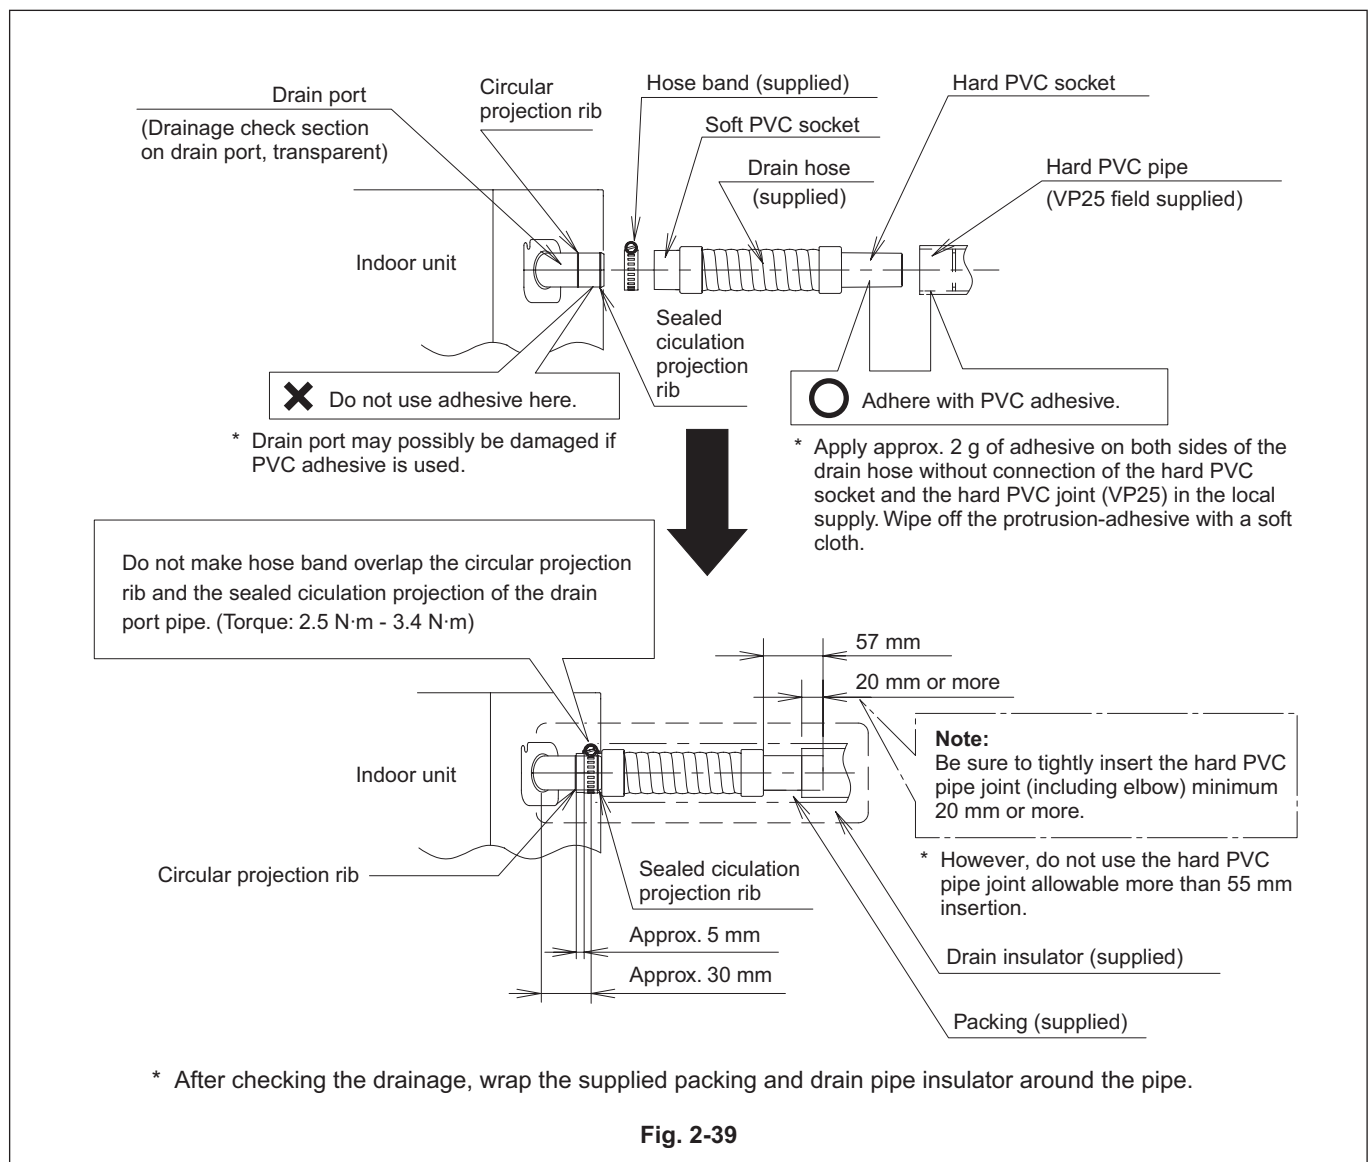

Fig. 2-39
- 3) Move the hose band so that the center position of the hose band can be placed approx. 30 mm away from the external plate of the indoor unit. (Fig. 2-39)